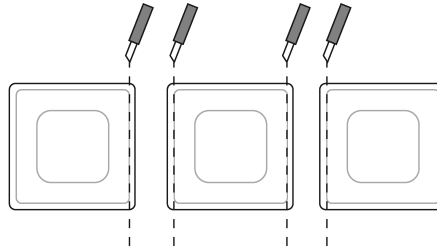

Figure 3: Cutting the adhesive pads for multiple combinations
- i** In the case of multiple combinations, the abutting sides of the adhesive pads must be cut along the external punching using a ruler and a cutter (Figure 3).